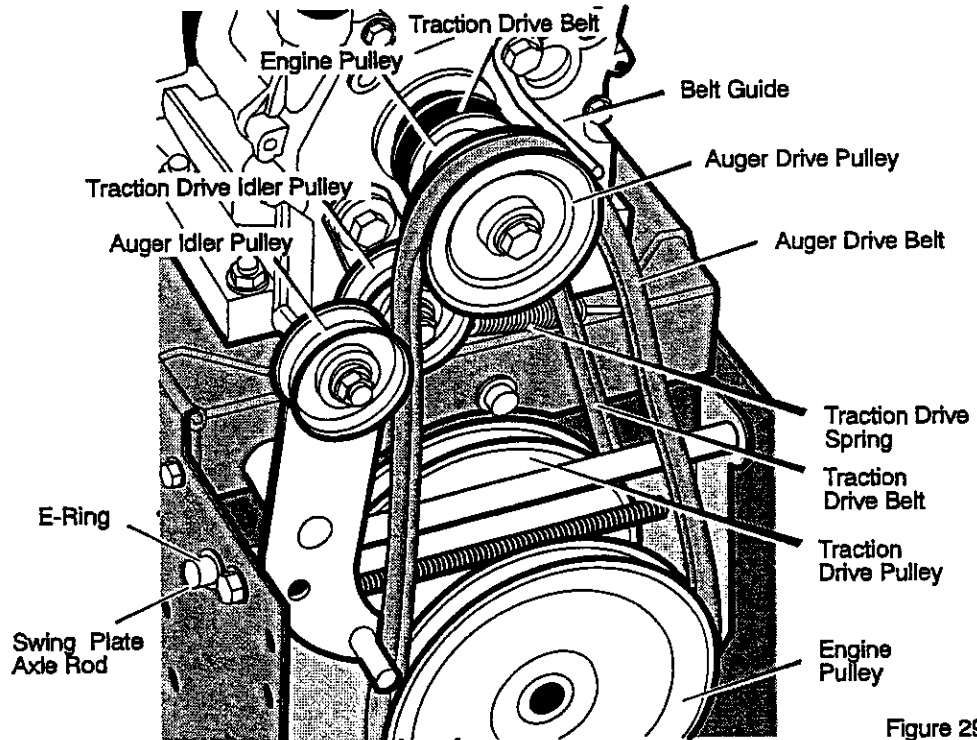

Figure 29
3. Loosen nut on auger idler pulley and move auger idler pulley towards belt about 1/8 inch (3 mm) (see Figure 29).
5. Loosen the belt guide. Pull the belt guide away from the auger drive pulley (see Figure 29).
9. Remove the old auger drive belt from the auger drive pulley. Replace the auger drive belt with an original factory replacement belt available from an authorized service center (see Figure 29).
3. Remove the e-ring from one end of the swing plate axle rod. Remove the swing plate axle rod to allow the swing plate to pivot forward (see Figure 29).